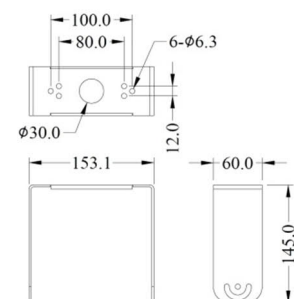

Figure 5
- Secure the wall/pendant mounting bracket to the structure by using six fasteners (not provided). (Figure 5)